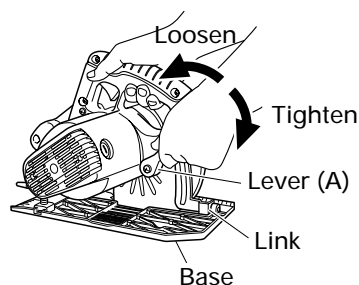
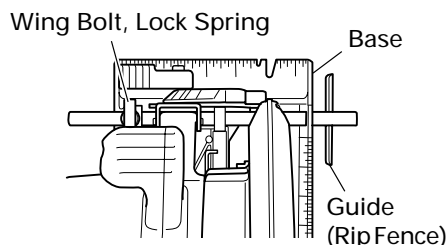

Fig. 10
Fig. 13
7. Check if lever (A)s are tightened.
If the lever (A) to adjust cutting depth (Fig. 10) and lever (A) to adjust angle of inclination (Fig. 13) are loose, injury can result. Make sure that they are tightened securely.
#### 1. Adjusting the cutting depth (Fig. 10)
The cutting position can be regulated by moving the guide to the left or right after loosening its wing-bolt. The guide may be mounted on either the right or left side of the tool. (See Fig. 13)